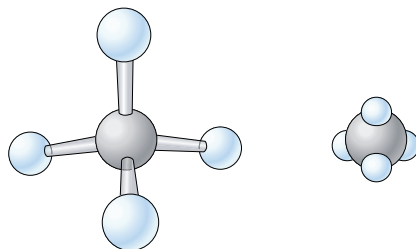

Figure 6 Three-dimensional CH_4 models: ball-and-stick (left); space-filling (right).
Two types of molecular models are shown in Figure 6. Most likely, you will use ball-and-stick models. Each ball represents an atom, and each stick represents a single covalent bond (a shared electron pair) connecting two atoms. But of course molecules are not composed of ball-like atoms located at the ends of sticklike bonds. Experimental evidence shows that atoms are in contact with each other, much like what you see in space-filling models. However, ball-and-stick models are still useful because they can clearly represent the structure and geometry of molecules.
- c. Draw a ball-and-stick model, similar to the one in Figure 6 on page 185, of the three-carbon alkane.